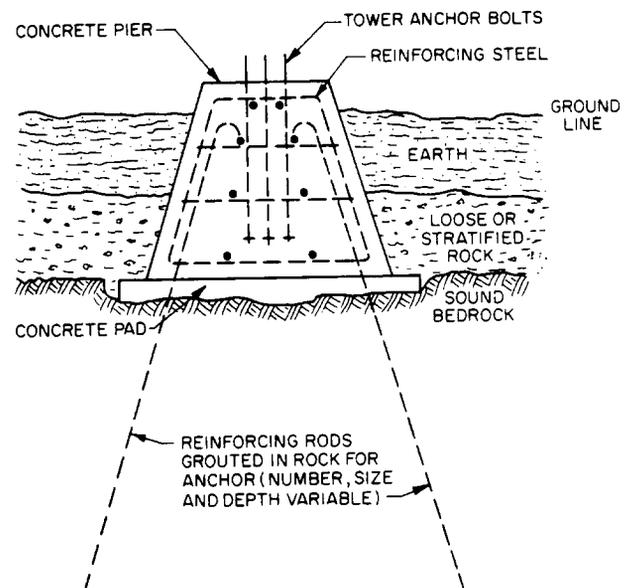

Fig. 1 – Typical Foundation in Rock
1.06 In some localities, bedrock may be encountered before reaching the required depth for the foundation or anchors. Since rock excavation is comparatively expensive, economies may be realized by using specially designed concrete structures anchored in the bedrock. The type, depth, and number of anchors required are dependent upon the type, stratification, inclination of the rift, etc., of the rock. The cross section of a typical foundation in rock is shown in Fig. 1.